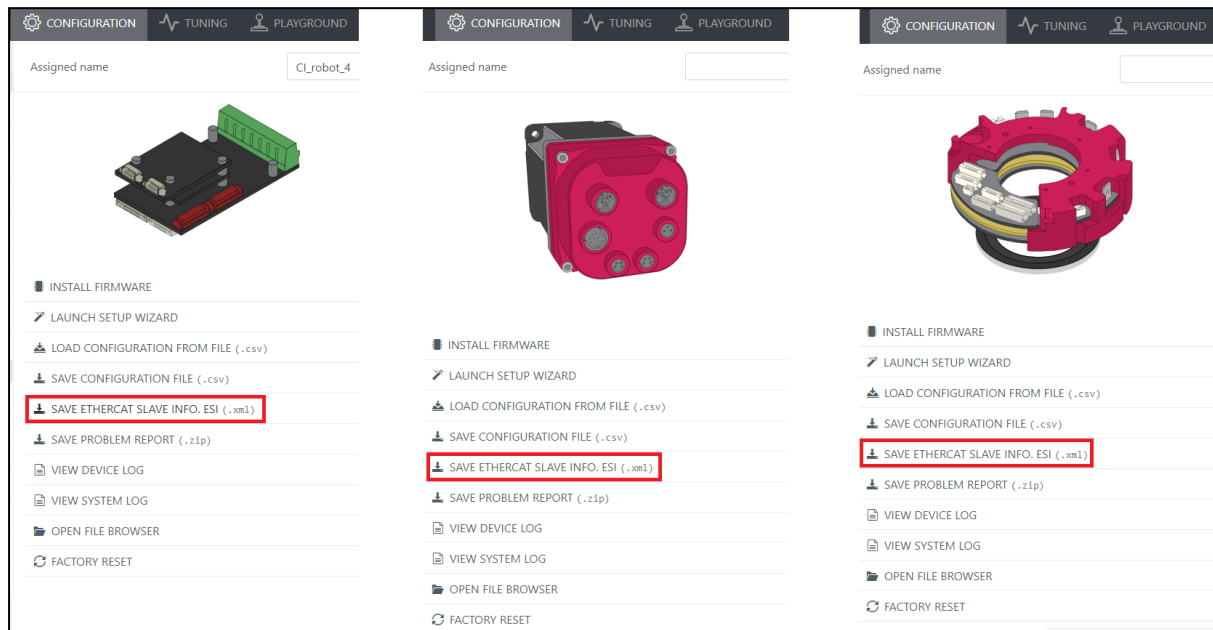
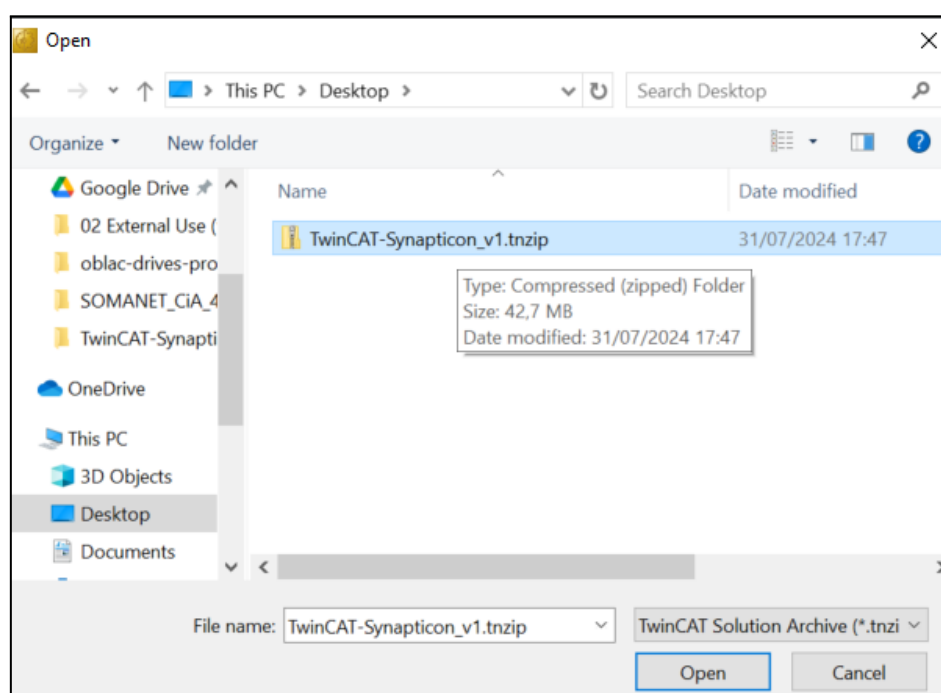

Figure 5.6 - Downloading ESI files for different devices from the OBLAC Drive
Figure 5.8 - Selecting the provided archive
- b. Download ESI files from the interface as shown in Figure 5.6 below.
3. To import code from the archive (refer to Figures 5.6 and 5.7), create a new folder and select it. In the example in Figure 5.8, it is named **TwinCAT-Synapticon**.